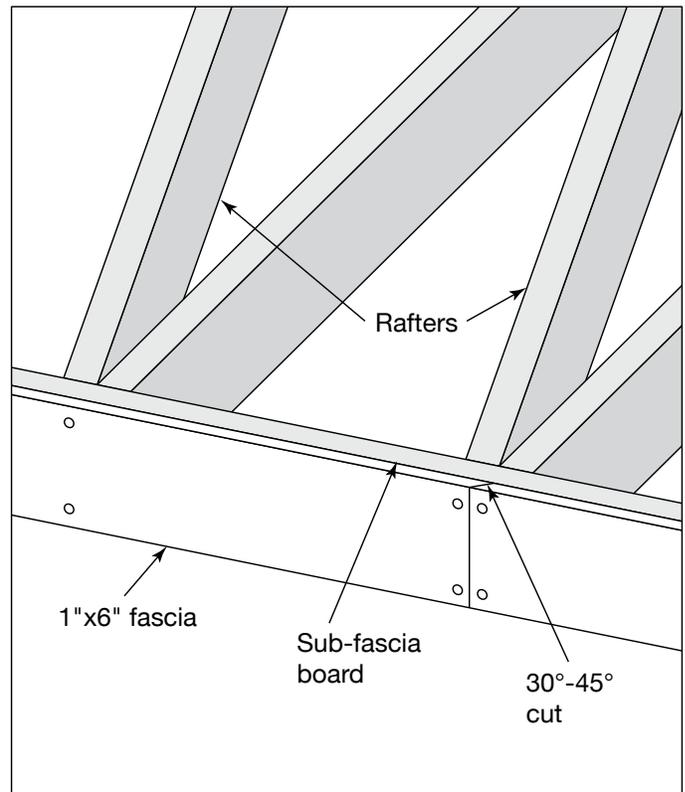

Fig. 8
- Nail the trim pieces in place with two .113 x 2-3/8" or greater stainless steel or hot-dipped hand-driven or pneumatic ring shank nails; 15 gauge trim nails; or #6 or larger exterior coated or stainless steel trim-head screws within 2" of the edge of the trim piece (Fig. 8).
- On long trim runs, use butt joints cut at 30- to 45-degree angles (Fig. 8).
Note: *TruExterior Trim may be installed directly over bricks or other masonry exteriors. When using TruExterior as fascia, a sub-fascia is required (Fig. 8).*